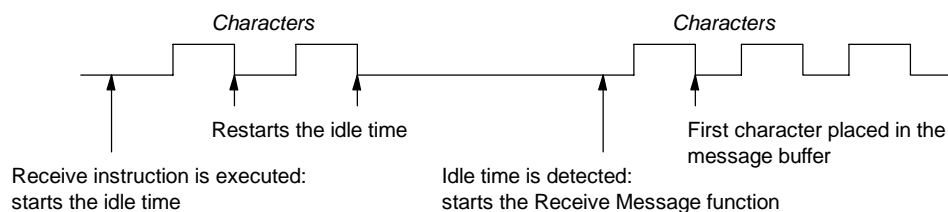

Figure 6-11 Using Idle Time Detection to Start the Receive Instruction
1. **Idle line detection:** The idle line condition is defined as a quiet or idle time on the transmission line. A receive is started when the communications line has been quiet or idle for the number of milliseconds specified in SMW90 or SMW190. When the Receive instruction in your program is executed, the receive message function initiates a search for an idle line condition. If any characters are received before the idle line time expires, the receive message function ignores those characters and restarts the idle line timer with the time from SMW90 or SMW190. See Figure 6-11. After the idle line time expires, the receive message function stores all subsequent characters received in the message buffer.